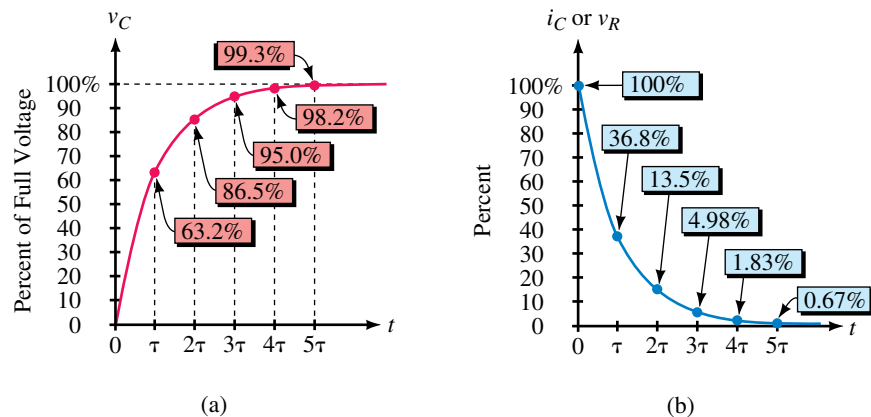

FIGURE 11-15 Universal voltage and current curves for RC circuit.
Figure 11-15 shows percent capacitor voltage and current plotted versus multiples of time constant. (Points are computed from $v_C = 100(1 - e^{-t/\tau})$ and $i_C = 100e^{-t/\tau}$. For example, at $t = \tau$, $v_C = 100(1 - e^{-1}) = 100(1 - e^{-1}) = 100(1 - 0.368) = 63.2 \text{ V}$, i.e., 63.2%, and $i_C = 100e^{-\tau/\tau} = 100e^{-1} = 36.8 \text{ A}$, which is 36.8%, and so on.) These curves, referred to as universal time constant curves, provide an easy method to determine voltages and currents with a minimum of computation.
EXAMPLE 11-6 Using Figure 11-15, compute v_C and i_C at two time constants into charge for a circuit with $E = 25$ V, $R = 5$ k Ω , and $C = 4$ μ F. What is the corresponding value of time?
7. Find capacitor voltage and current for Figure 11-16 at $t = 0.6$ s using the universal time constant curves of Figure 11-15.